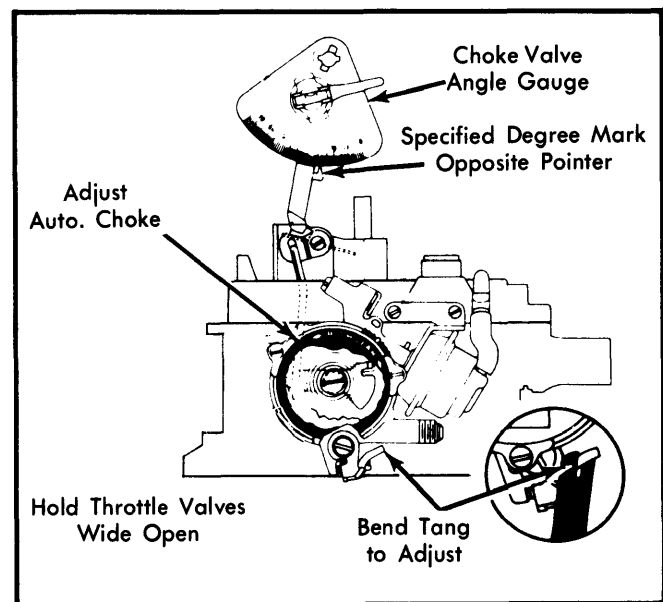

Fig. 7 Adjusting Choke Unloader
1) Hold throttle valves wide open. If engine is warm, close choke valve by pushing up on vacuum break lever tang. Hold in position with a rubber band. See Fig. 7.